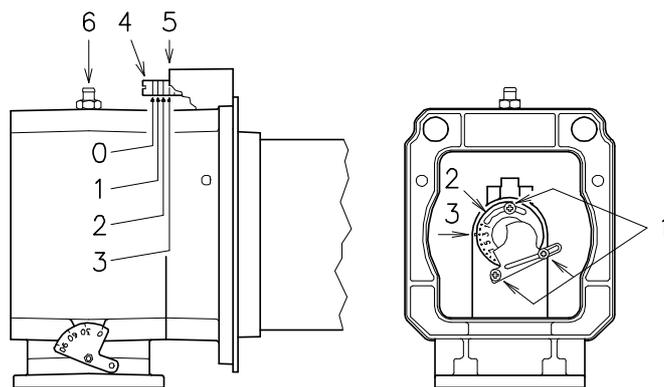

Fig. 14
- Turn the screw 4)(Fig. 14) until the notch found lines up with the front surface 5) of the flange.
To facilitate the adjustment, loosen the screw 6)(Fig. 14), adjust, then block.
- Loosen the screws 1)(Fig. 14) and rotate the ring nut 2) until the notch you have found corresponds with the indicator 3).